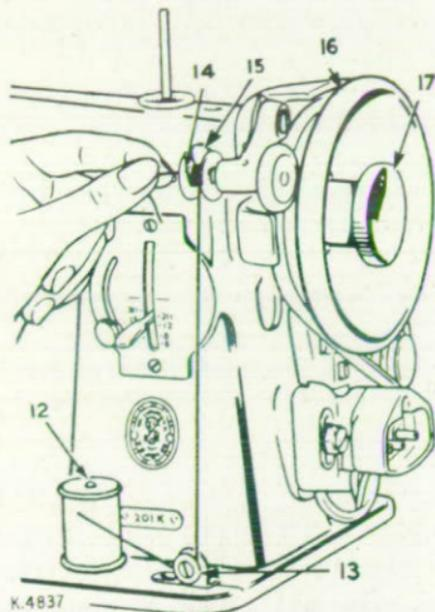

Fig. 12. Winding the Bobbin.
Loosen the hand wheel by turning stop motion screw 17, Fig. 12, over toward you, place both feet upon the treadle and turn the hand wheel over toward you, at the same time allowing the feet to move freely and lightly with the motion of the treadle. Continue to do this until a regular and easy movement is acquired and you are able to work the treadle so that you can re-start the machine with the wheel turning toward you.
TO WIND BOBBIN. *See Fig. 12.*
2. Lock bobbin in place by pressing bobbin winder down until latch 15, Fig. 12 engages.
If pressure of bobbin winder pulley against hub of hand wheel is insufficient for winding the bobbin, press down bobbin winder until latch 15, Fig. 13 drops and holds it in position. Loosen adjusting screw 18, Fig. 13. With forefinger, push back upper end of slotted plate 19 as far as it will go, as shown in Fig. 13, and at the same time, press bobbin winder pulley against hub of hand wheel. Tighten adjusting screw 18. If thread does not wind evenly on bobbin, loosen screw which holds tension bracket 13, Fig. 12 in position. Move bracket to the left if bobbin winds high on right; move bracket to the right if bobbin winds high on left. When bracket is properly centred, thread will wind evenly across bobbin.